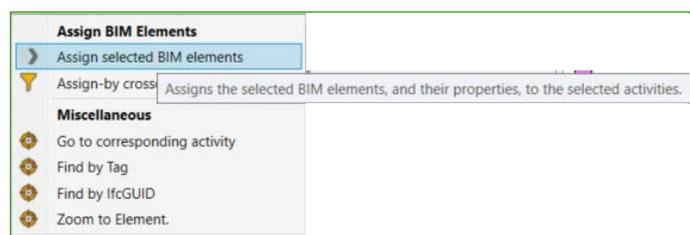

Figure 30 Manual elements assignment context menu
- **Manual Selection:** Choose individual BIM elements (Figure 30).
- **Criteria-Based Selection:** Select sets of elements that meet specific criteria (e.g., material type, location) (Figure 30).
3. Open the context menu by right click, and the dialog shown in Figure 30 will appear.